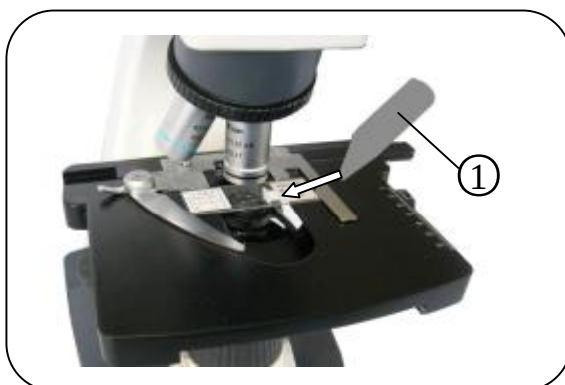

Fig. 18.
11. Using 100X oil immersion objective (Fig. 18.)